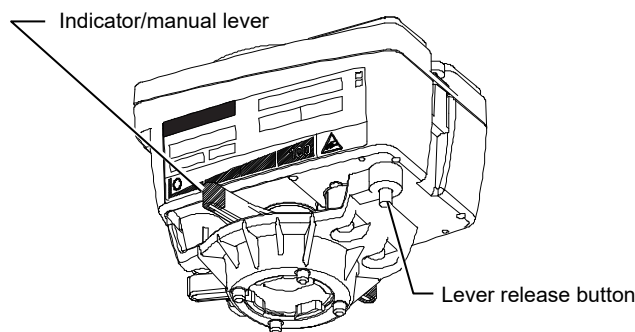

Figure 8. Manual override
- 2) As shown in Fig. 8, turn the indicator/manual lever while pressing the lever release button.